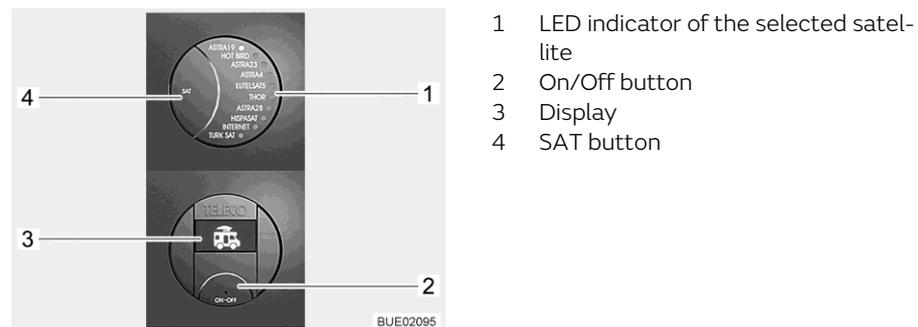

Fig. 61 Operating panel (TeleSat)
- Press the On/Off button (Fig. 61,2). The LED indicator of the selected satellite (Fig. 61,1) and the background lighting of the buttons are lit. The symbol of the vehicle with retracted antenna appears on the display (Fig. 61,3).
- Press the On/Off button (Fig. 61,2) again. The system has been switched on. If the antenna had been retracted, it will now extend to operating position. If the LED of the desired satellite (Fig. 61,1) is already flashing, wait a few seconds. The antenna automatically aligns with this satellite (the last satellite position is saved after switching off). When the unit has found the satellite, the LED (Fig. 61,1) is lit permanently and "SAT OK" is shown on the display (Fig. 61,3).
- Press the SAT button (Fig. 61,4) repeatedly until the LED (Fig. 61,1) indicates the desired satellite. The antenna automatically aligns with this satellite.
When the unit has found the satellite, the LED (Fig. 61,1) is lit permanently and "SAT OK" is shown on the display (Fig. 61,3).
- Press the On/Off button (Fig. 61,2). The LED indicator of the selected satellite (Fig. 61,1) and the background lighting of the buttons are lit. The currently selected satellite is shown on the display (Fig. 61,3).
- Press the On/Off button (Fig. 61,2) again. The antenna retracts. When the antenna has been fully retracted, the symbol of the vehicle with retracted antenna is shown on the display. The system changes to the standby mode after a few seconds.